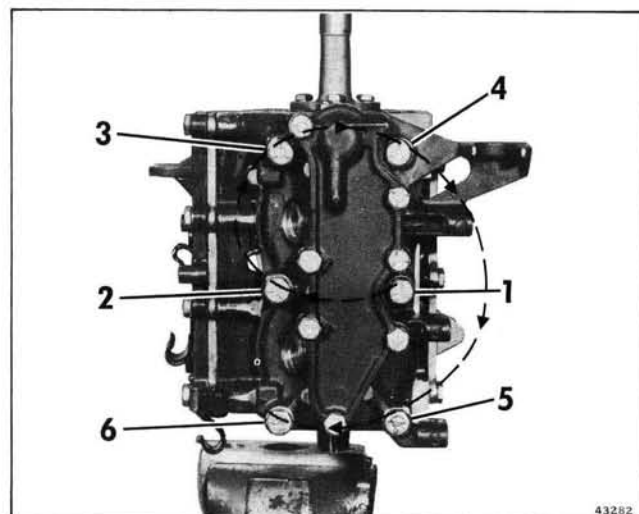

Figure 5-44. Cylinder Head Torquing Sequence
g. Install cylinder head, using a new gasket coated lightly with OMC Gasket Sealing Compound. Do not use sealer if so stated on the gasket. Tighten cylinder head bolts to specified torque, following the sequence shown in Figure 5-44.